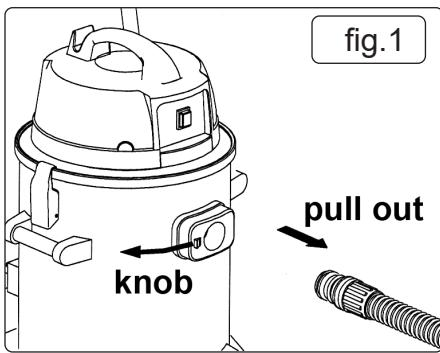

fig.1
4.1. HOSE INSTALLATION. Fig.1.